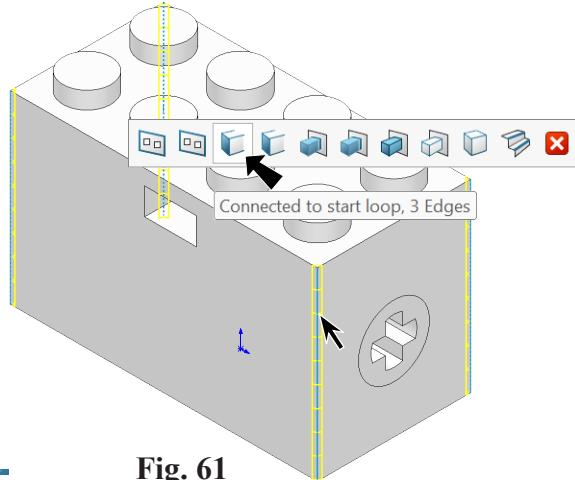

Fig. 61
① Radius  .5
click vertical edge of Motor (1), Fig. 61